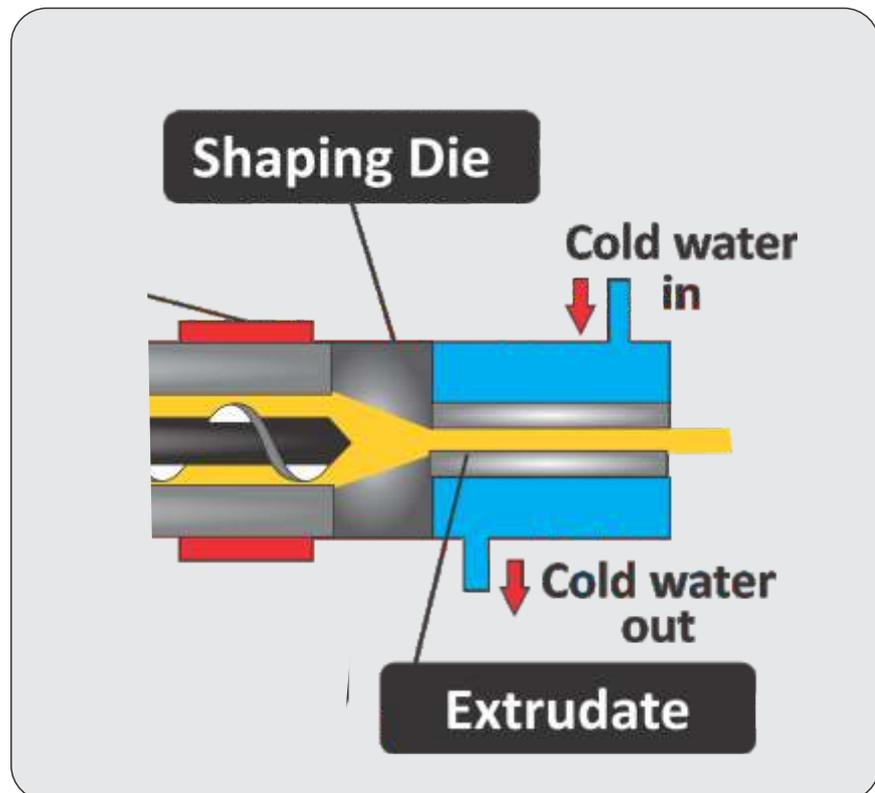

Figure 2.5 Step 4, The plastic must cool in this shape after passing through the die in order to set in shape
- 4 The plastic must cool in this shape after passing through the die in order to set in shape (Figure 2.5). Plastic cools much more slowly than other extruded materials. This necessitates a considerably more efficient cooling process because the plastic is delivered directly into water baths from the die. The calibrating equipment that supports the section while it is being cooled is located inside the water baths. This gives the portion its final shape and dimensions.